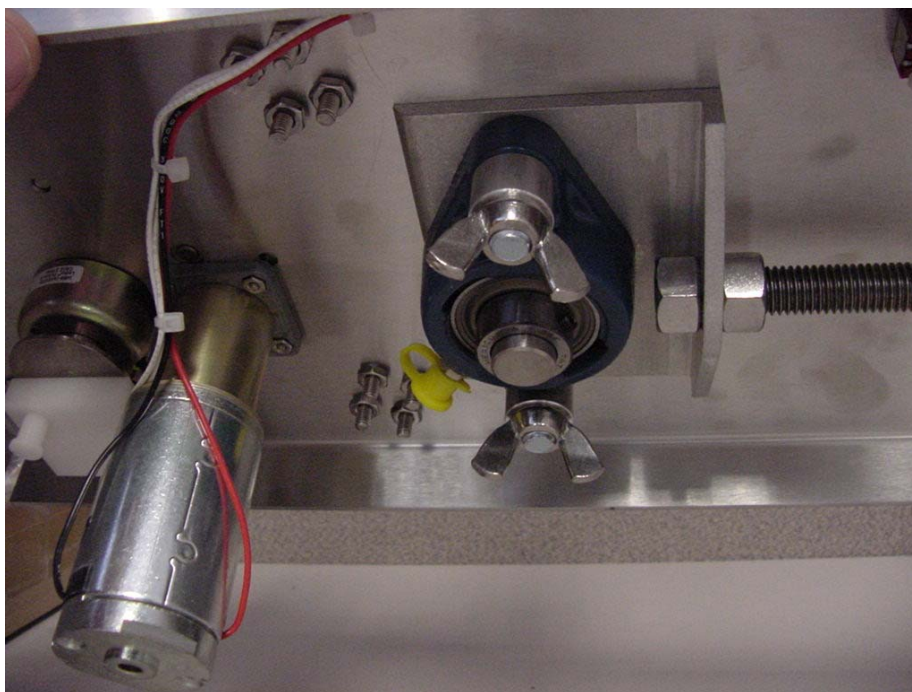

Figure 3-29. Fixture Adjustment Wingnuts
- 2) Secure fixture capstan and bearings by tightening two wing-nuts on bottom of fixture while holding top thumb screw ends. Hand tight is sufficient. See Figure 3-29.